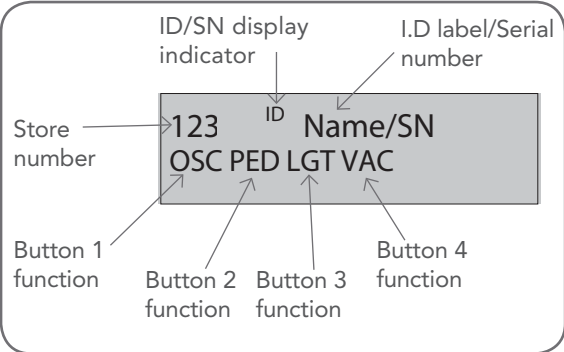

Fig 10.1
- Reprofiling is a simplified way of re-learning the travel characteristic of a previously setup Limit Switch travel installation. Reprofile can be used when the travel characteristics of the gate(s) change due to mechanical adjustments etc. To initiate a re-profile, simply locate "MENU 10.3 Reprofile Travel", press SET and follow the prompts. The gate(s) will start to move and re-calculate force margins. The gate(s) can move between the open and close limit positions up to two (2) times (depending on the position of the gate(s) and the power up condition).
DCB-05V2 can store up to thirty (30) transmitters in its memory. Each transmitter can be allocated an alpha-numeric ID label up to eleven (11) characters in length and each button can be assigned to one of several control functions. The settings for a transmitter are represented in (Fig. 10.1). It shows the transmitter's store number, ID label or serial number and the functions assigned to each of its four buttons. To toggle between ID/SN display, press UP/DOWN with the cursor on the ID/SN indicator. The procedures below code, delete, replace, edit and copy transmitter records.